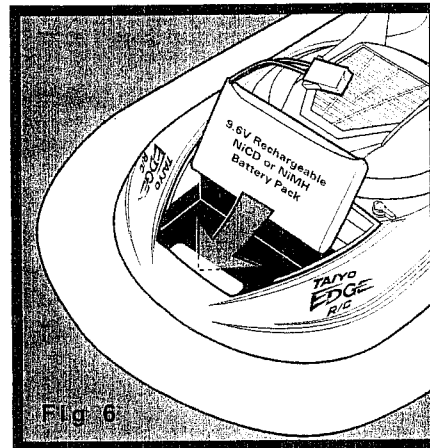

Fig. 6
2. Insert fully charged BATTERY PACK into battery compartment as shown. Observe position of wire as shown. (Figs. 6 and 7)